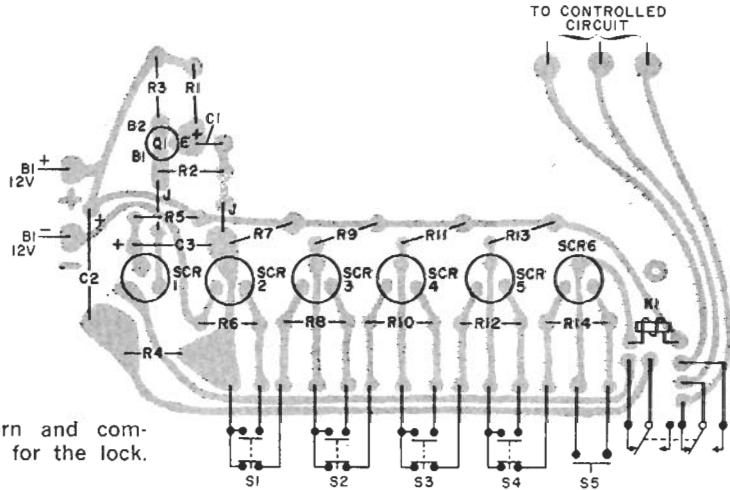

Fig. 2. Foil pattern and component installation for the lock.
**Construction.** The circuit is assembled on a printed circuit board whose foil pattern is shown in Fig. 2, which also shows component layout. Install the semiconductors carefully and observe the polarities of the electrolytic capacitors. Use a heat sink (such as long nose pliers) on